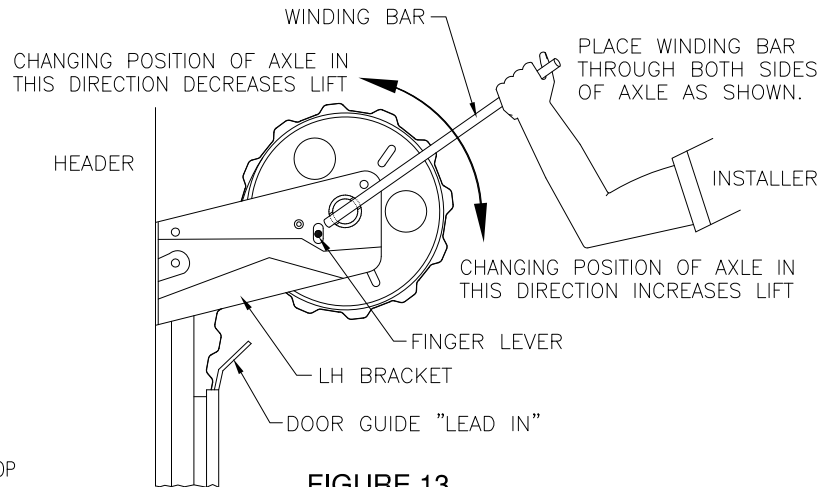

FIGURE 13
RAISE DOOR TO 12" FROM FULL OPEN POSITION: ADD ADDITIONAL SPRING TENSION WITH WINDING BAR IF DOOR IS COLD. DOOR WILL START TO RAISE ON ITS OWN WHEN BALANCE IS CORRECT (SEE FIGURE 13).
REMOVE EXCESS SPRING TENSION WITH WINDING BAR BY LIFTING ADJUSTER PAW WITH FINGER LEVER ON OUTSIDE OF BRACKET AND SLOWLY RELEASING SPRING TENSION 1/6 TURN AT A TIME IF YOUR DOOR IS HOT (SEE FIGURE 13).
(A) CHECK DOOR MOUNTING BRACKETS FOR PLUMB. (B) ADJUST LOCATION OF GUIDES FOR 3/8" CLEARANCE FROM CURTAIN ROLL END TO INSIDE OF VERTICAL GUIDE RAIL, TOP AND BOTTOM. (C) CHECK GUIDES FOR FOREIGN MATTER, SUCH AS DIRT, ETC. (D) CHECK FOR DAMAGED GUIDES. (E) ADJUST LEAD-IN BEND AT TOP INSIDE OF GUIDES ("LEAD IN" SHOWN IN FIG. 13).